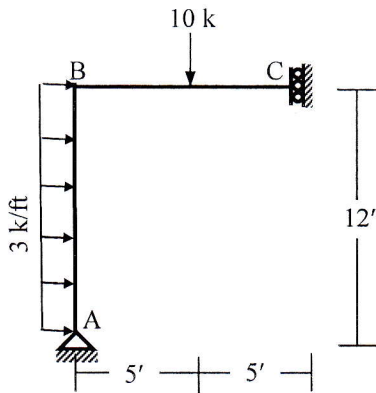

Fig. 3
3. For the frame shown in Fig. 3, calculate the unknown deflection and rotations neglecting axial deformation [Given: $EI = 40 \times 10^3 \text{ k-ft}^2$].